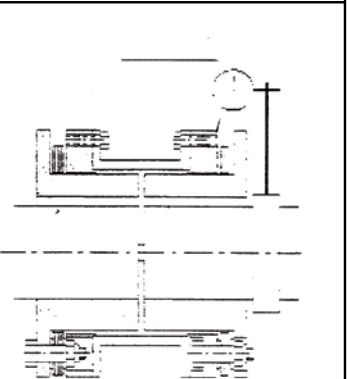

FIGURE 4
1) Attach a dial indicator to one shaft. Place the indicator pointer on either face of the adapter flange closest to that hub as shown in figure 4.